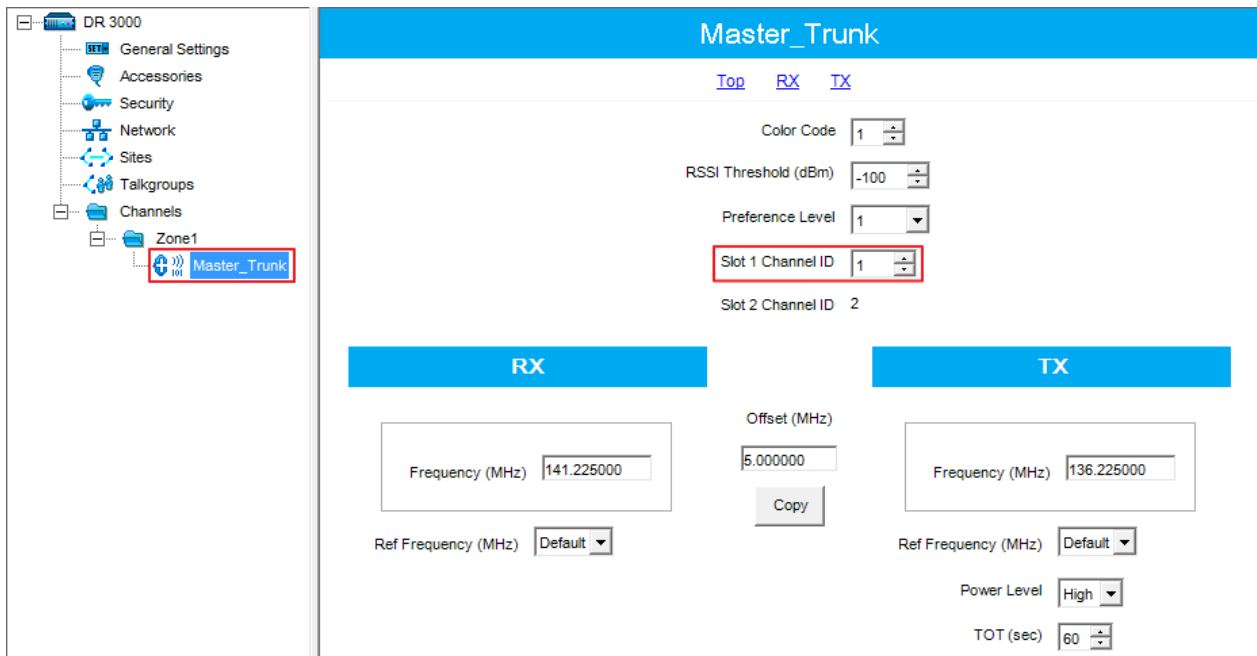

Fig. 5 - Setting Slot 1 Channel ID for Master repeater
2. Set the **Slot 1 Channel ID** equal to *1* (Fig.5).